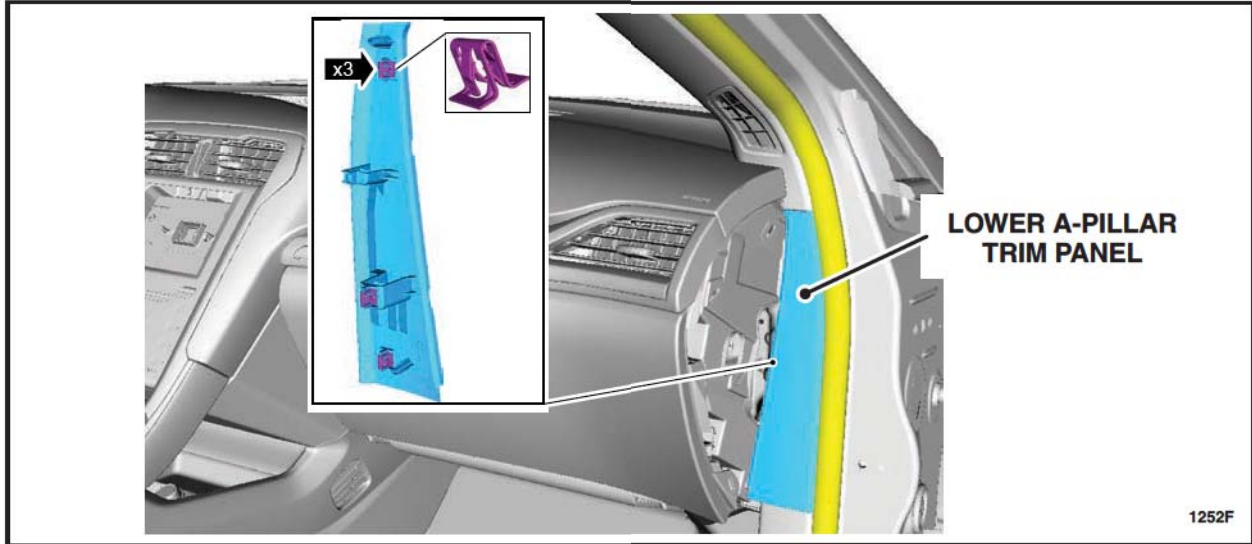

FIGURE 4
4. Remove the RH and LH lower A-pillar trim panels. See Figure 4.